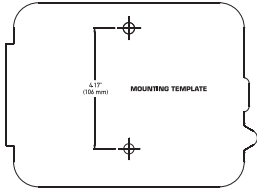

Figure 4: Use Mounting Template
- Use the mounting template (included) to mark the mounting screw location on the wall. See **Figure 4**